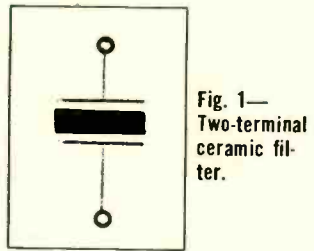
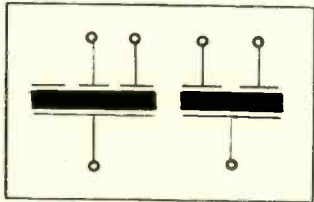
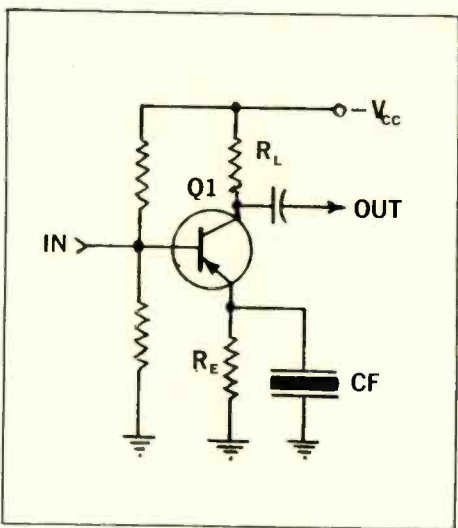

Fig. 1—Two-terminal ceramic filter.
Fig. 2—Symbols for three-terminal ceramic filter.
Fig. 3—Ceramic filter in the emitter circuit of a transistor IF amplifier.
Basically, there are two types of ceramic filters: two-terminal devices that can replace series-tuned L-C circuits (symbol shown in Fig. 1), and three-terminal devices that can be used as bandpass coupling networks (commonly used symbols shown in Fig. 2). Fig. 3 and 4 illustrate two different applications of the first type.
In Fig. 3, transistor Q1 is an inductorless IF amplifier in an AM radio. The ceramic filter (CF) has a fundamental resonant frequency of 455kHz. For a 455kHz input signal, the CF's very low impedance (series resonant) shorts out the emitter resistor, giving Q1 maximum gain. For signal frequencies other than 455kHz, the CF no longer resonates and takes on a high impedance, allowing resistor R_E to introduce degeneration, reducing the gain of the IF amplifier.